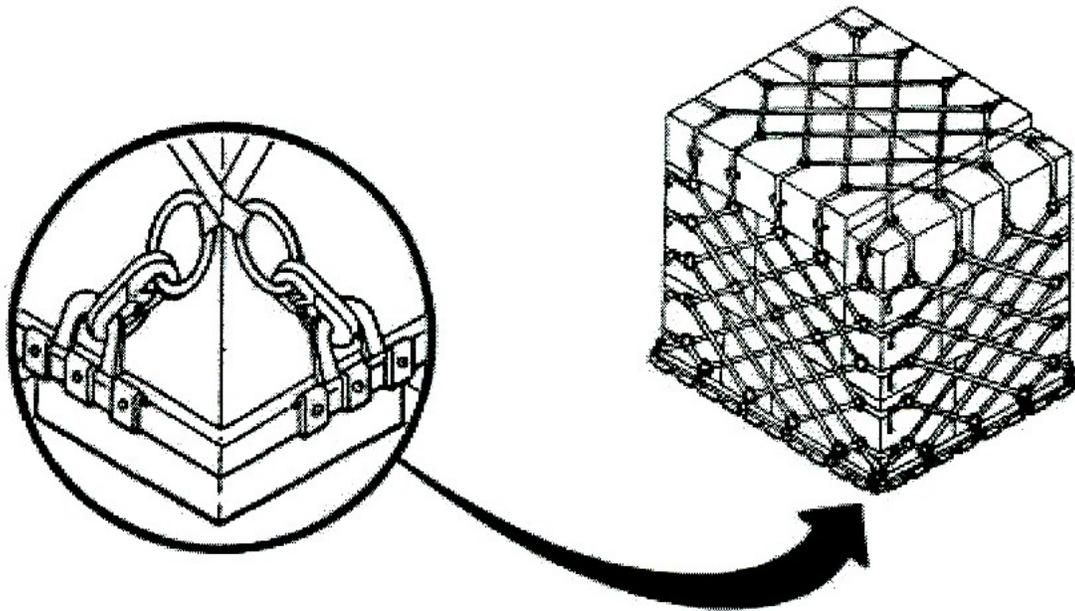

Figure 3-129
e. Direct personnel to attach the top net to the side nets by hooks and rings. The two side nets are attached to the rings on the pallets and go around the side of the load and a top net goes over the top of the cargo (see Figure 3-129).